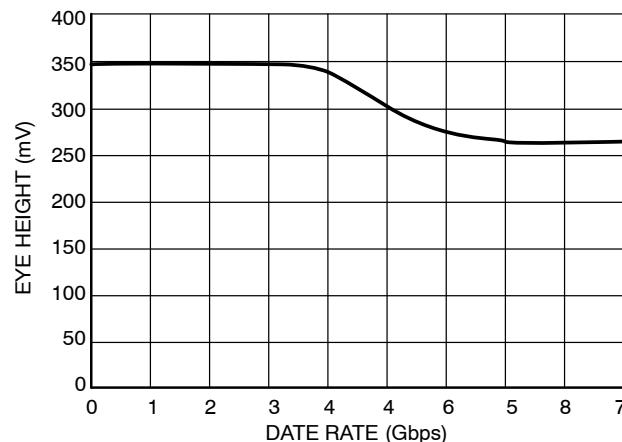

Figure 4. NB6HQ14M Eye Height vs. Data Rate
14. Additive peak-to-peak data dependent jitter with input NRZ data at PRBS23. For applications requiring equalization, the vertical eye height is also a critical figure of merit. See Figure 4 for equalized eye height versus data rate.